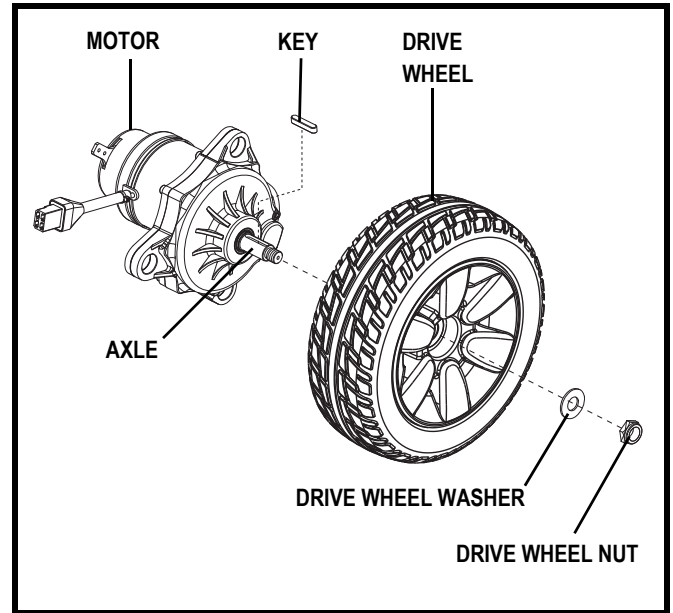

Figure 18. Jazzy Elite 6 Drive Wheel Removal
4. Remove the drive wheel nut and washer from the axle. See **figure 18**.
8. Reinstall the drive wheel nut and washer onto the axle and tighten. See **figure 18**.